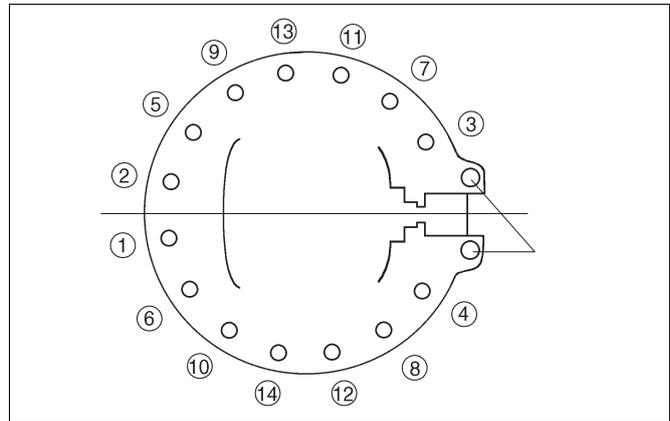

Fig. 19 Tightening the body joint bolts
- ❑ Place the PTFE gasket into the outer circumference of the groove of the female body half. See Figure 19.